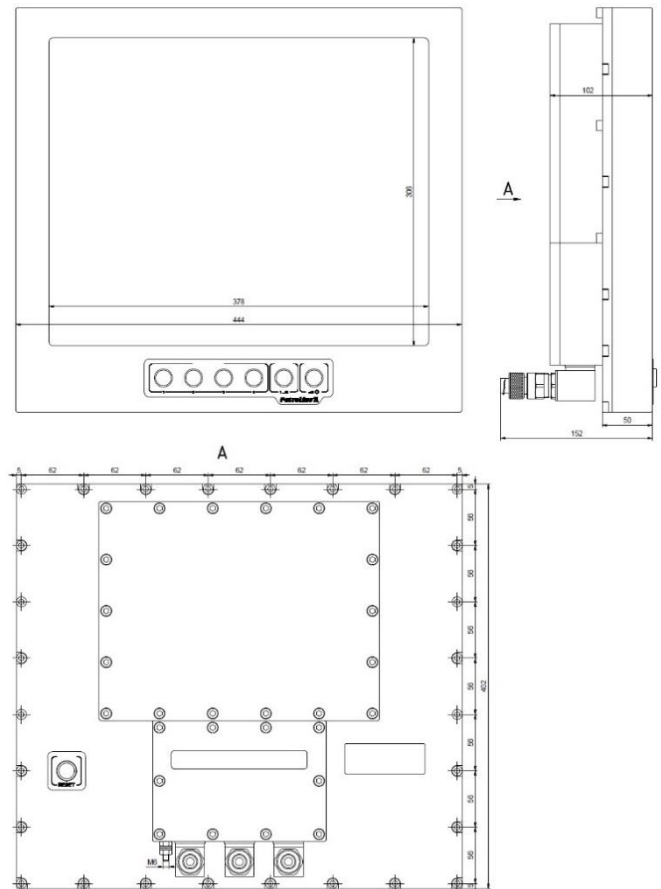
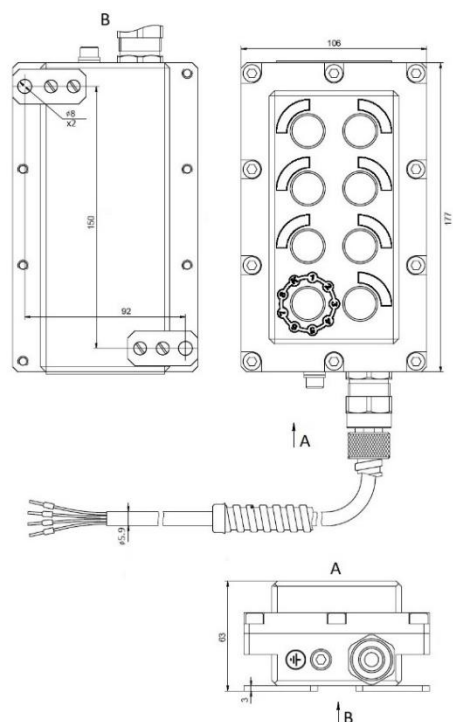
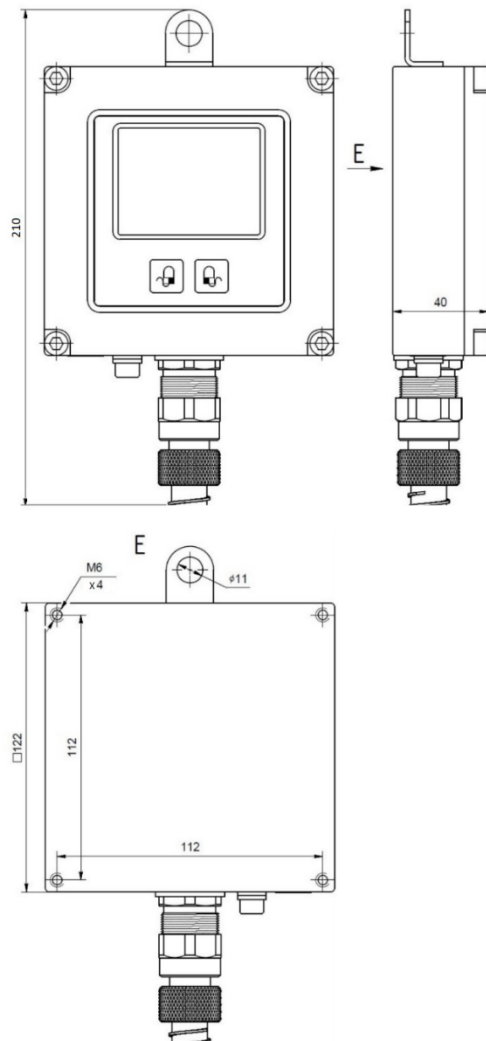

Figure 1. Overall dimensions of the MV-150V3 (panel mount configuration)
Figure 2. Overall dimensions of the Pushbutton Panel MV-150V
Figure 3. Overall dimensions of the Remote Control MV-150V
- Basic dimensions at the processing facilities correspond to the dimensions of the MV-150V3 (see Fig. 1), the Pushbutton Panel MV-150V (see Fig. 2) or the Remote Control MV-150V (see Fig. 3);